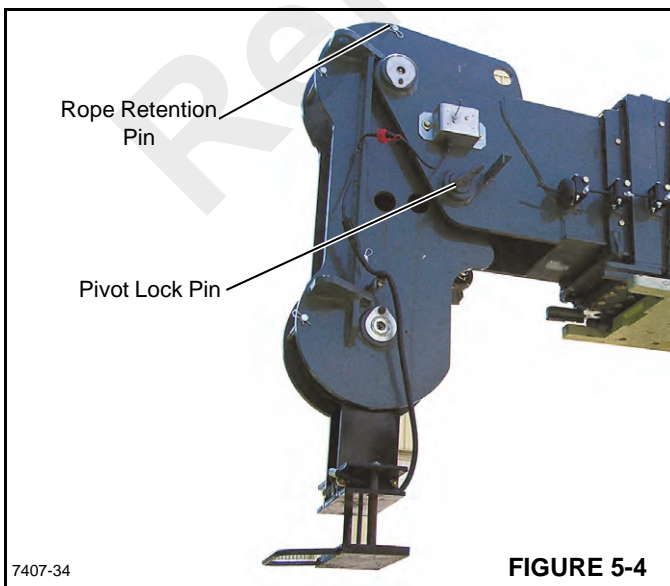
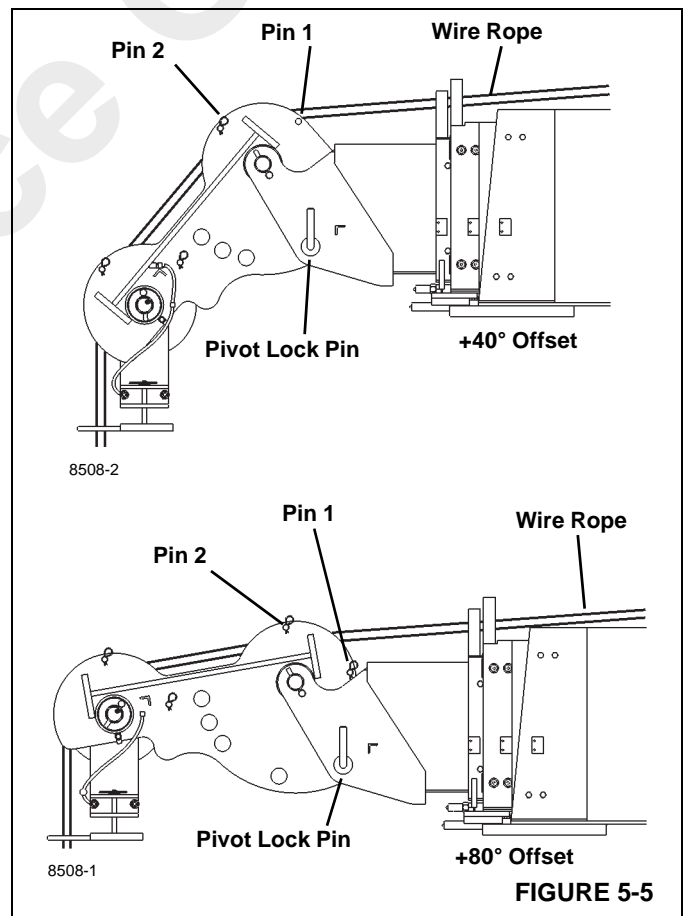

FIGURE 5-4
FIGURE 5-5
3. Remove the retaining clip from the rope retention pin, remove the rope retention pin from the top of the boom head (Figure 5-4).
4. Remove the lynch pin and the pivot lock pin (Figure 5-4).
6. Install the rope retention pin and retaining clip into the top of the boom head (Figure 5-4).
7. When offsetting boom head (Figure 5-5) to +40° run rope above pin #1 and between pin #2 and sheave wheel.
8. When offsetting boom head (Figure 5-5) to +80° run rope above pin #1 and between pin #2 and sheave wheel.
9. After installing the rope retention pin and retaining clip into the boom head (Figure 5-5). Check that the wire rope is not contacting retention pin at the top of the boom head.
3. Remove the retaining clip and rope retention pin from the top of the boom head (Figure 5-4).
7. Install the rope retention pin and retaining clip into the top of the boom head (See Figure 5-4 and Figure 5-5).